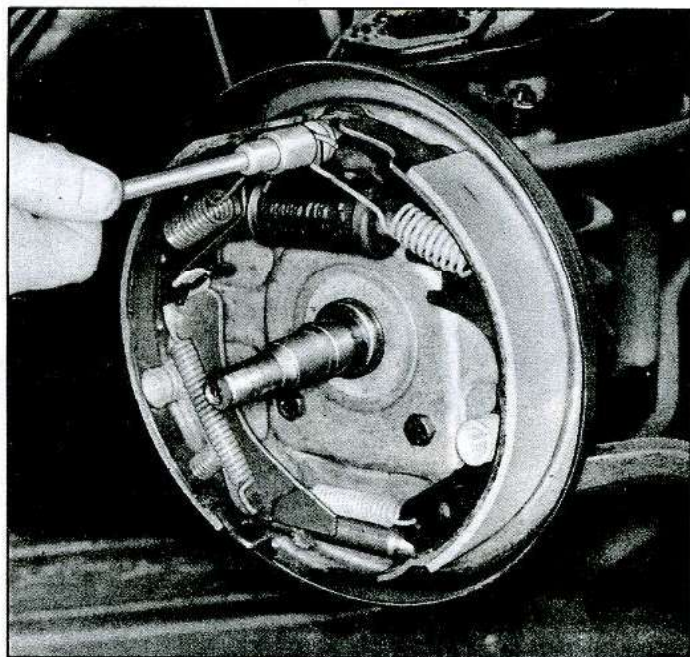

Fig. 18—Unhooking Pull Back Springs
4. Unhook brake shoe pull back springs from anchor pin and link end, using Tool J-8049 (fig. 18).